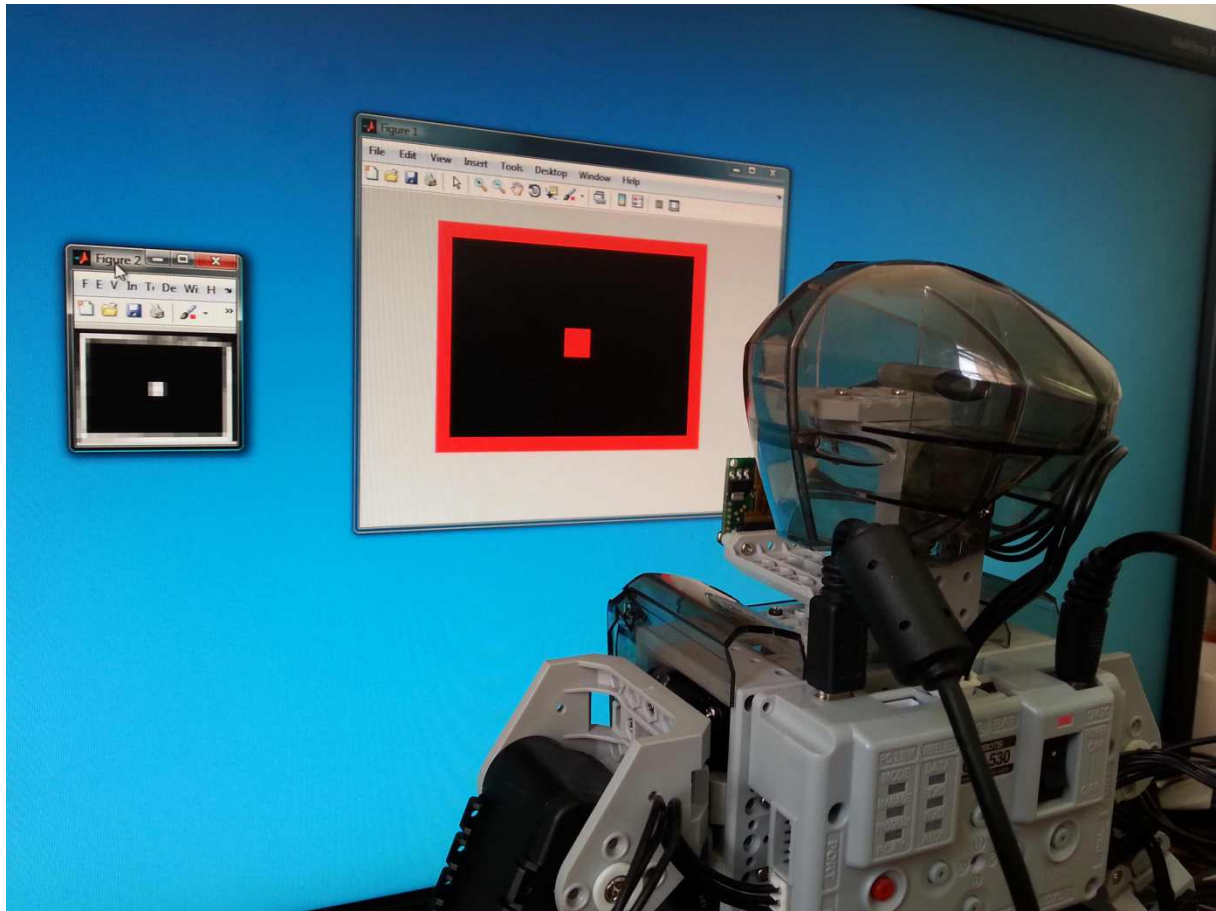
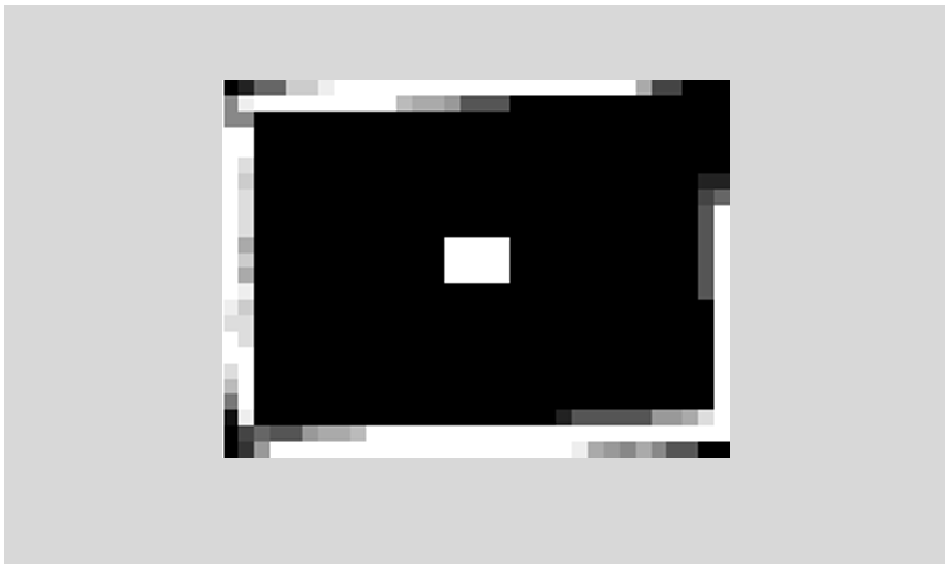

Fig. 1 – Robot looking at a calibrating figure.
Fig. 2 – A reference image from the robot's camera. Any image similar to this one is ok.
4. Move the robot approximately 15cm in front of a screen and point camera toward to the screen. Execute the fourth cell and two figures appear. One figure is a calibrating picture that helps to move the robot to the right position and the second figure is an image from the camera. Move the robot and the calibrating picture to face each other [Fig. 1]. Press Enter in Matlab command window to update image from the camera. Once the robot sees the calibrating picture correctly [Fig. 2] write „ok“ in the Matlab command window to start the picture capturing process.